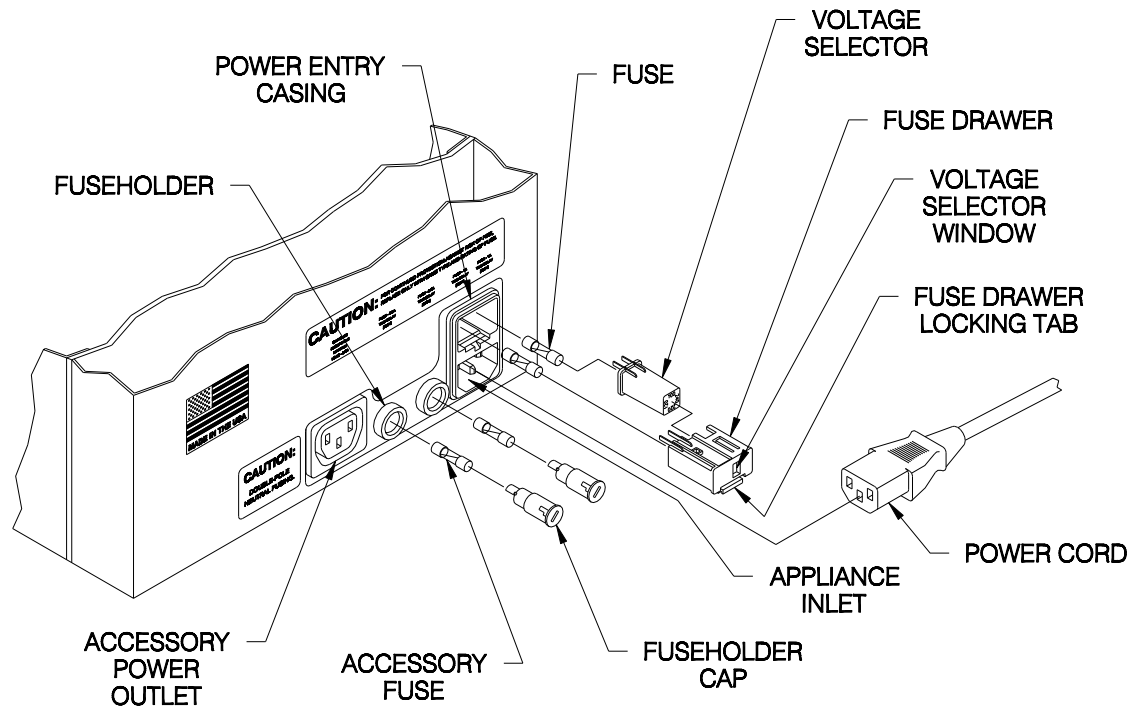

Figure 7.1 Replacing FD 280 Fuses
1. Use a small screwdriver or similar tool to push up on the FUSE DRAWER LOCKING TAB to release this locking tab. (Refer to **Figure 7.1.**)
2. Pull the FUSE DRAWER out of the POWER ENTRY CASING. (Refer to **Figure 7.1.**)
6. Install the FUSE DRAWER. (Refer to **Figure 7.1.**)
1. Use a small screwdriver or similar tool to press in and slightly rotate the FUSEHOLDER CAP counterclockwise. (Refer to **Figure 7.1.**)
Refer to Fig. 7.1